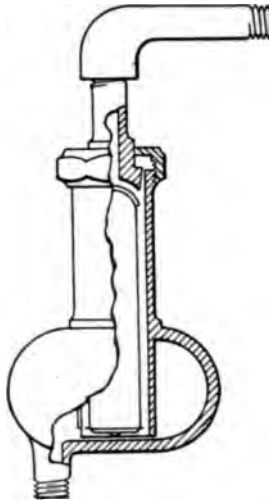

Fig. 105.—Retainer Valve—K-M-C System.
A. A special form of air valve called a retainer valve of the shape and character shown by Fig. 105 is employed in place of an ordinary air valve. This valve is of the float and expansion variety and is so constructed as to immediately close when steam enters it.